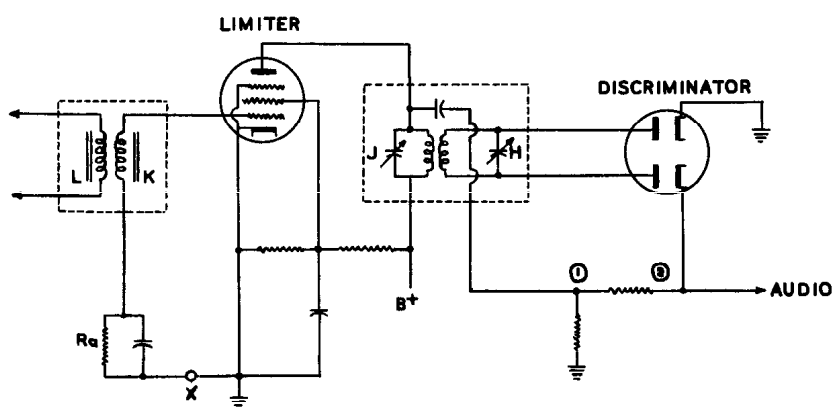

Figure 14
It is the standard practice to align the IF amplifier of an FM receiver (tuner) before aligning the RF and oscillator sections just as in AM receivers. However, the exact technique of alignment depends on whether a limiter discriminator or a ratio detector is used. Where a limiter and discriminator are used, usual practice is to align the IF section up to the input of the limiter first. Then align the discriminator as a separate step. When aligning the IF, RF and oscillator sections, the grid current of the limiter may be used as an output indicator. Although the voltage across a limiter grid resistor, measured with a VTVM, will serve in many cases, it is not an ideal indication. A typical limiter and discriminator stage is shown in Figure 14. Proper alignment technique for the complete FM receiver is as follows:
- (1) Connect an output indicator by (1) attaching a VTVM across the limiter grid resistor, or (2) breaking the circuit at the grid of the limiter and inserting a microammeter with a maximum range of around 150 microamps. If this method is used, be sure and bypass the meter with a .05 μ fd condenser to ground. See point X in Figure 14.
- (2) Connect a signal generator to the input of the mixer stage and turn on both the signal generator and the receiver. A sufficient warm-up time must be allowed to permit both the receiver and the generator to reach their normal operating temperature. In the case of FM receivers this is usually 15 to 20 minutes before complete stabilization can be obtained. Adjust the signal generator to the IF value of the set. This is usually 10.7 mc. The unmodulated RF output of the signal generator is used.
- (3) Peak all IF trimmers for maximum meter readings. If the IF is considerably out of alignment so that very little meter reading is obtained, it may be necessary to connect the signal generator to the last IF stage and align this portion of the circuit first. Then work back toward the mixer stage, rechecking previous IF adjustments at each point.
- (4) Connect a VTVM between point 1 and ground as shown in Figure 14. Adjust the trimmer or slug "J" for maximum reading using a low VTVM range.
- (5) Transfer the VTVM connection to point 2 and adjust trimmer "H" for a minimum voltmeter reading.
- (6) Transfer the signal generator lead to the antenna terminals and align the RF and oscillator trimmers, using essentially the same technique as is outlined for AM receiver adjustment, except the frequency settings will fall between 88 mc and 108 mc. The output indicator for this adjustment is the same as discussed in Step 1. Lastly, adjust the antenna trimmer for maximum indication or volume using the receiver's own antenna and at its permanent location.